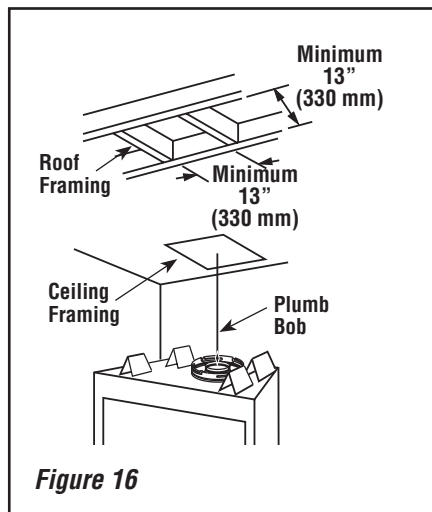

Figure 16
A. Frame ceiling opening—Use a plumb line from the ceiling above the appliance to locate center of the vertical run. Cut and/or frame an opening, 13" x 13" (330 mm x 330 mm) inside dimensions, about this center mark (**Figure 16**).
D. Attach vent components to appliance—To attach a vent component to the appliance collar, align the dimpled end over the collar, adjusting the radial alignment until the four locking dimples are aligned with the inlets of the four incline channels on the collar (refer to **Figure 16 on Page 16**).